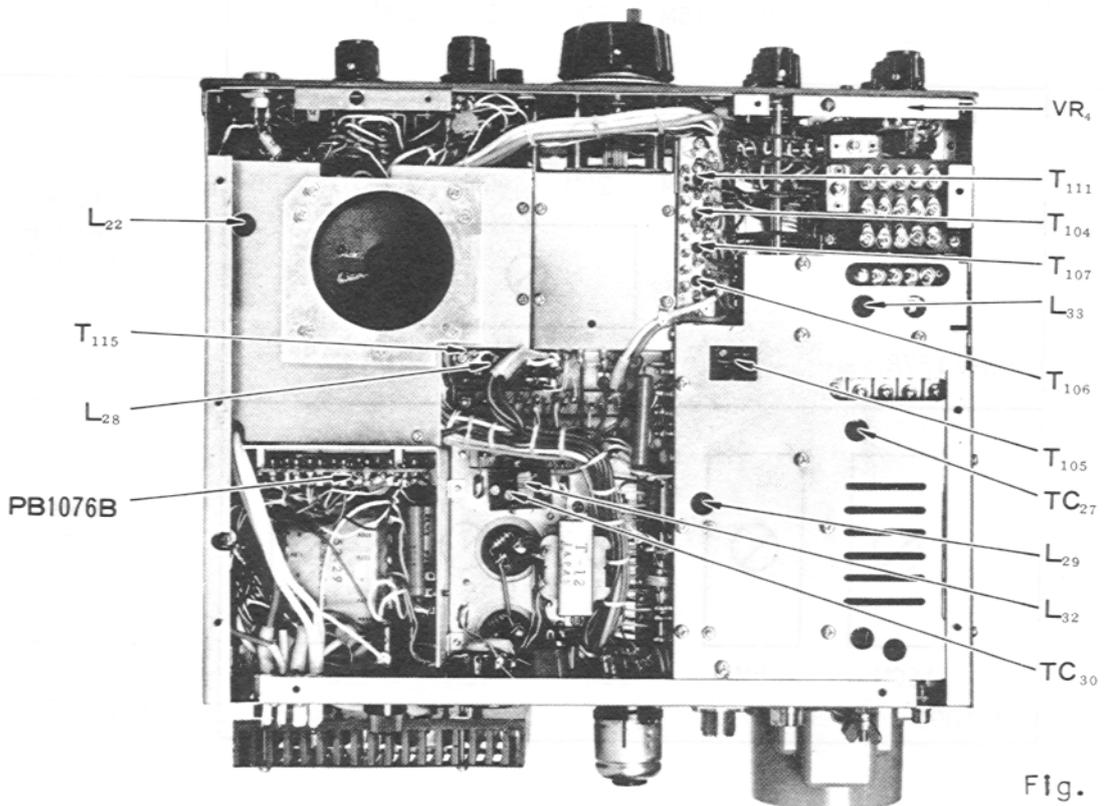

Fig. 7-6
10. Set the OPERATION switch to PTT, and without changing the VFO or PRESELECTOR settings, tune the RF signal generator to 4,000 kHz and obtain a 1,000 Hz beat note. Pre-set TC11 to the mid-capacitance point. Adjust T104 for maximum audio output as described in step 2. T104 takes a nylon hex alignment tool, and is held in position with wax. See Fig.7-6 for it's location, and don't forget to soften the wax before trying to turn it. We see many cracked cores from absent-minded servicemen!
The frequencies should coincide at CLARIFIER control OFF and 0 positions in the receive mode. If not, adjust potentiometer VR4 located near the clarifier control potentiometer under the main chassis until they do. (See Fig.7-6).